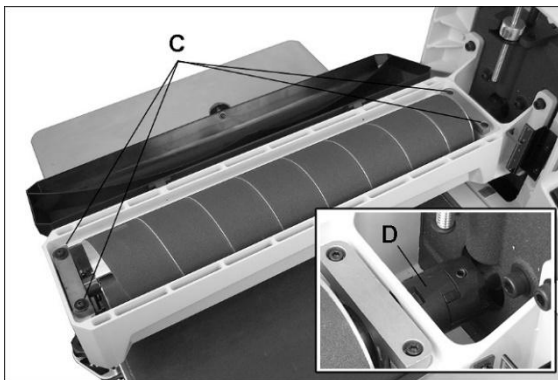

Figure 10-2: drum removal
2. Remove four socket head screws (C, Figure 10-2).
3. Carefully lift out drum with coupling (D) attached.